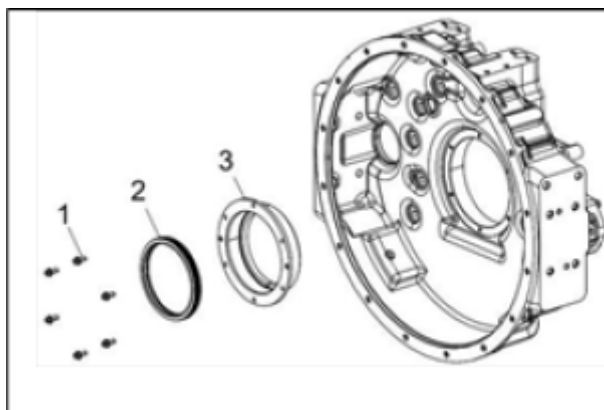

Figure 127.
2. Install the rear oil seal group on the flywheel housing (Figure 127).